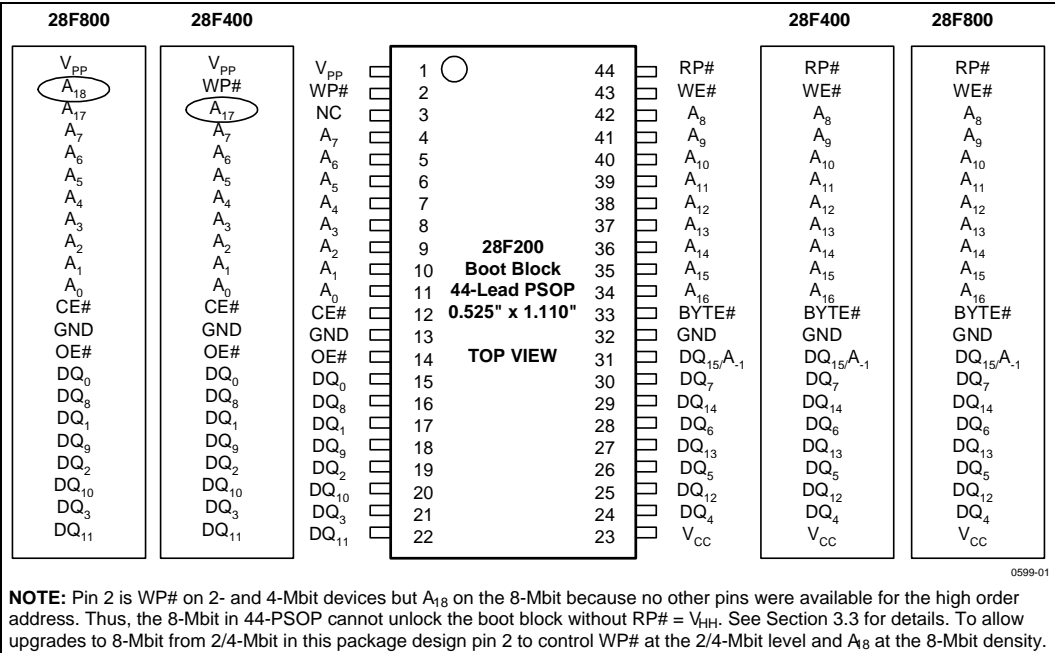
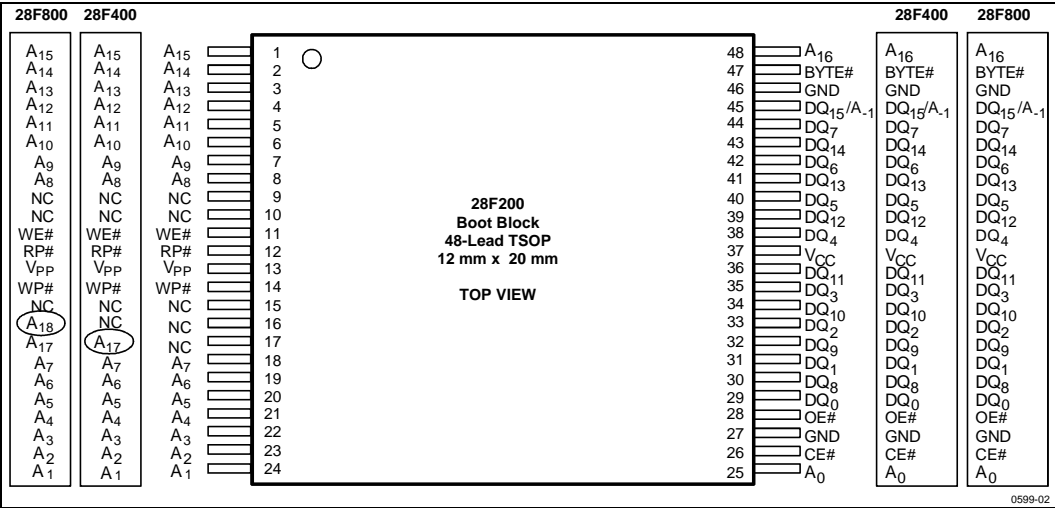

Figure 1. 44-Lead PSOP Pinout Diagram
Figure 2. 48-Lead TSOP Pinout Diagram
-002	Minor changes throughout document. Section 3.1.5 and Figure 14 redone to clarify program/erase operation abort. Information added to Table 2, Figure 1, and Section 3.3 to clarify WP# on 8-Mbit, 44-PSOP. Read and Write Waveforms changed to numbered format. Typical numbers removed from DC Characteristics and Erase/Program Timings.
-003	Minor text changes throughout document. Figure 1, 44-PSOP pinout: mistake on pin 3 on 2-Mbit pinout corrected from A 17 to NC. Specs $t_{EHQZ}$ and $t_{GHQZ}$ improved. Explanations of program/erase abort commands reworked in Table 6, Command Codes.
These 5 Volt Boot Block Flash memory products are available in the 44-lead PSOP (Plastic Small Outline Package), which is ROM/EPROM-compatible, and the 48-lead TSOP (Thin Small Outline Package, 1.2 mm thick) as shown in Figure 1, and 2, respectively.
Intel® 5 Volt Boot Block Flash architecture provides upgrade paths in each package pinout up to the 8-Mbit density. The 44-lead PSOP pinout follows the industry-standard ROM/EPROM pinout, as shown in Figure 1. Designs with space concerns should consider the 48-lead pinout shown in Figure 2. Applications using an 8-bit bus can use the 40-lead TSOP, which is available for the 4-Mbit device only.